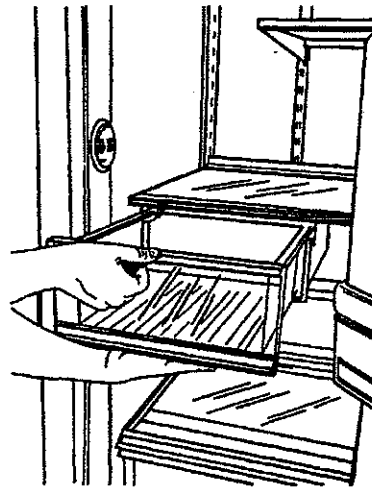

Figure 58
- d. Lift drawer up slightly to release from notches in grooves and pull drawer free. See Figure 58.